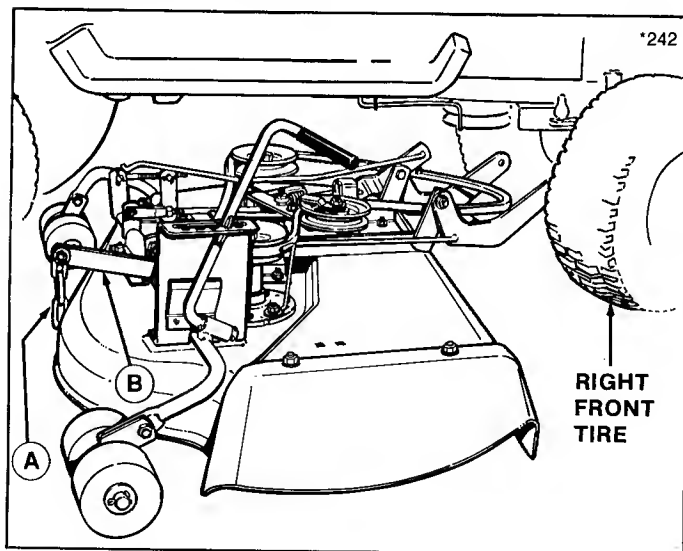
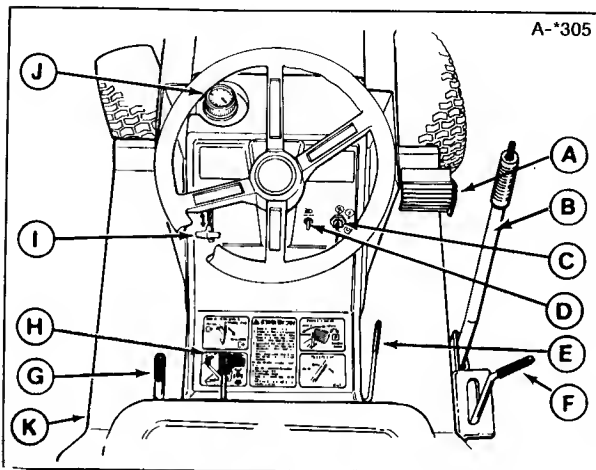

Figure 1. Installing 36" Mower
Figure 8. Tractor & Mower Controls
The lift chain (A, figure 1) should be connected to the rear hole in lift arm (B) unless optional large lift arm (B, figure 8) is used to raise mower. With large lift lever, connect chain in forward hole.
2. Turn the tractor front wheels full left (figure 1).
3. Place the mower in lowest cutting position and slide it under the tractor, aligning arms (C, figure 1) with tractor hitch (A, figure 2).